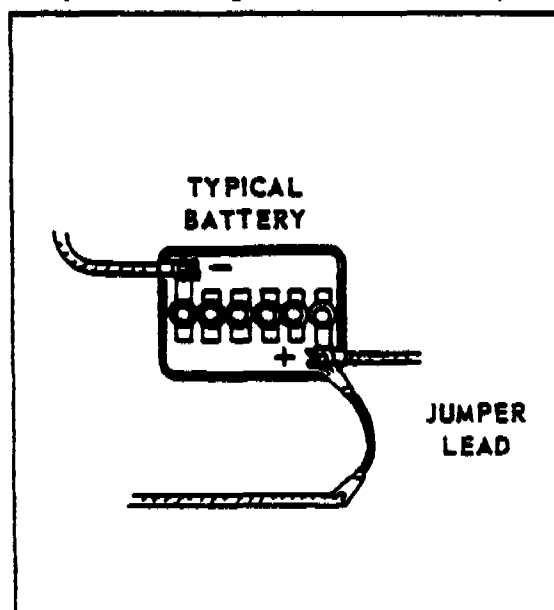

FIGURE 9-25. JUMPER CONNECTION
- d. If meter reads zero voltage, disconnect lead at alternator "F1" (field) terminal, and connect a jumper lead from this lead to the battery positive (+) post. See Figure 9-25.